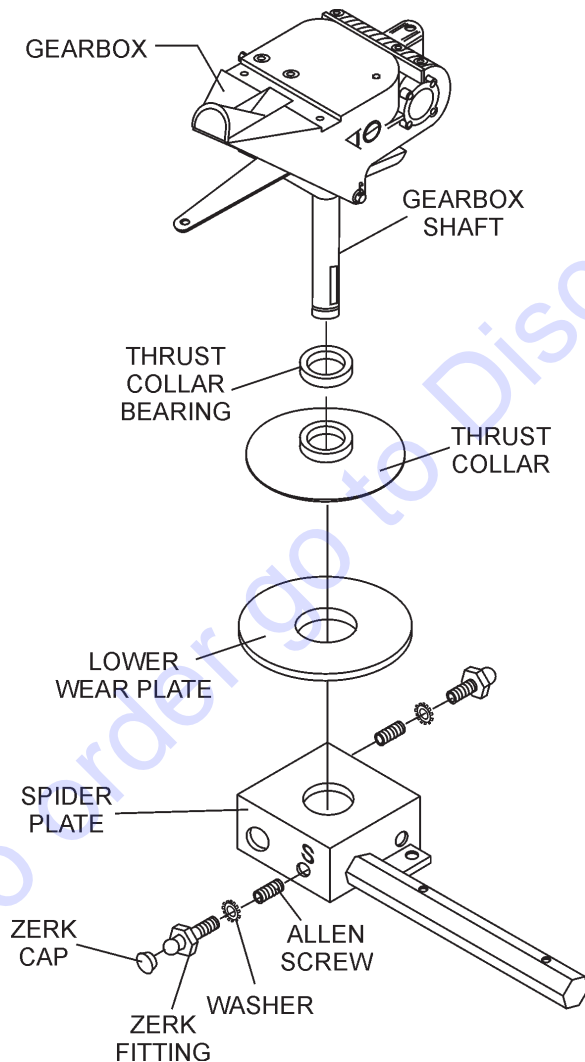

Figure 24. Spider/Gearbox Removal
- a. Remove the zerk fitting and allen head screw designated by the letter “S” (Figure 24). In addition, on the opposite side of the spider block there is another zerk fitting and allen head screw, remove both of these components.